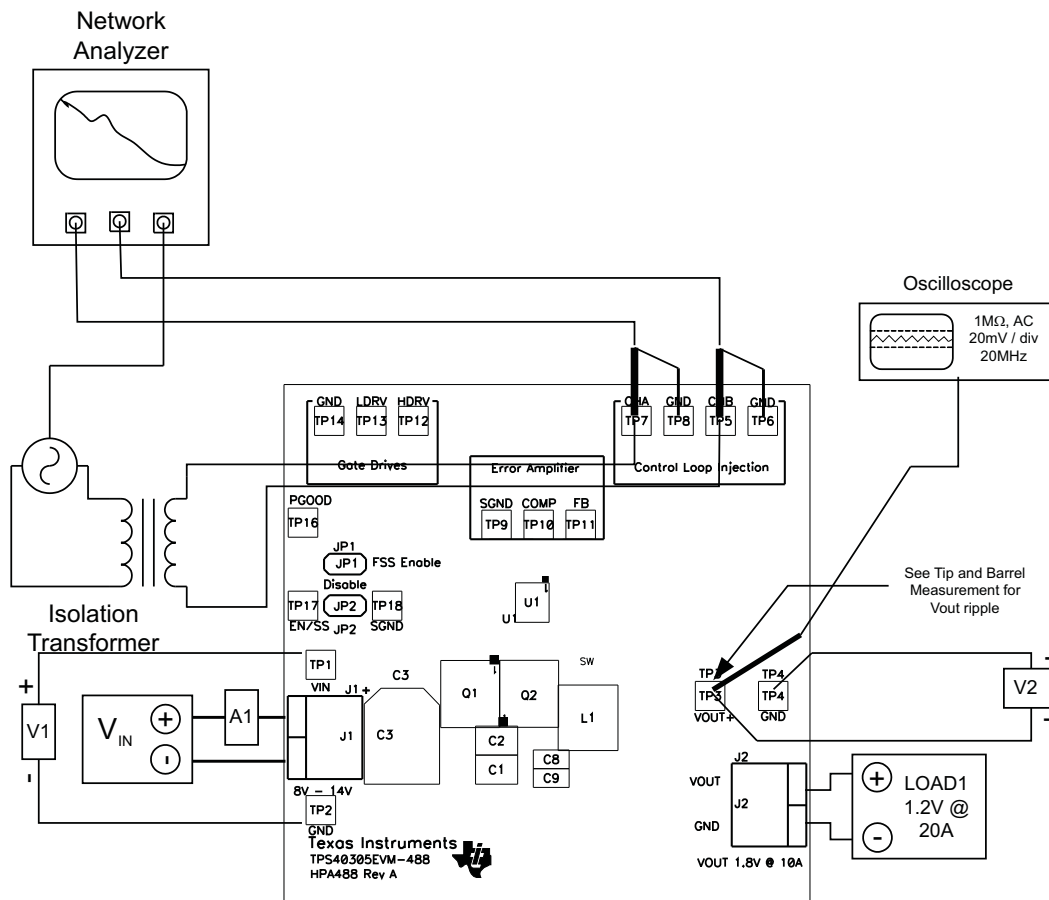

Figure 4. Control Loop Measurement Setup
The TPS40305EVM-488 provides four test points (2 signal and 2 ground) for measuring the control loop frequency response. This allows the user to measure the actual module loop response without modifying the evaluation board. A transformer isolated signal up to 30mV can be injected between TP5 and TP7. The injected signal amplitude can be measured by the AC coupled amplitude at CHA (TP7) and the resulting output voltage deviation can be measured at CHB (TP5). See Figure 4 for additional detail.
2. Connect a 1-kHz – 1-MHz isolation transformer to TP5 and TP7 as shown in Figure 4
3. Connect input signal amplitude measurement probe (channel A) to TP7 as shown in Figure 4
4. Connect output signal amplitude measurement probe (channel B) to TP5 as shown in Figure 4
5. Connect ground lead of channel A and channel B to TP6 and TP8 as shown in Figure 4